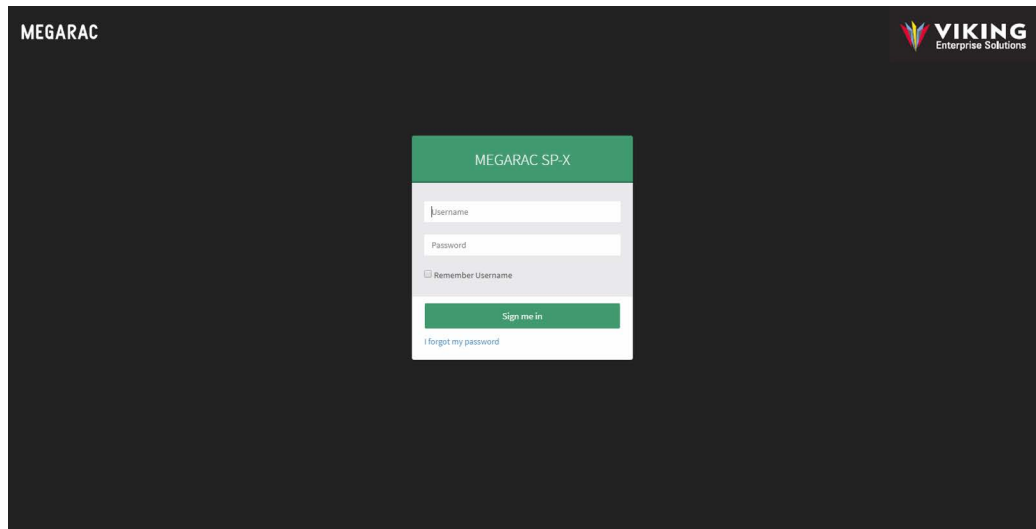

Figure 5.9 MegaRAC® BMC WebUI login
2. The BMC WebUI login screen displays as shown in Figure 5.9 on page 67.